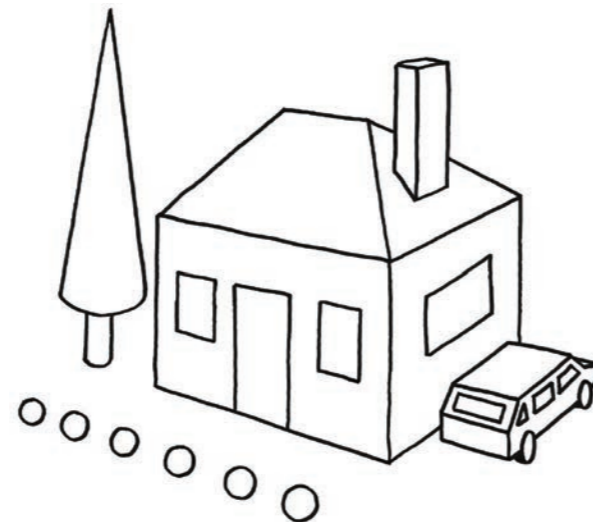

Figure 21
2. Figure 21 is a line drawing showing a tree, a house and a car. It was drawn by combining different basic shapes. Make a copy of this drawing and shade it in. You can use any of the shading techniques you've learnt about in this chapter.